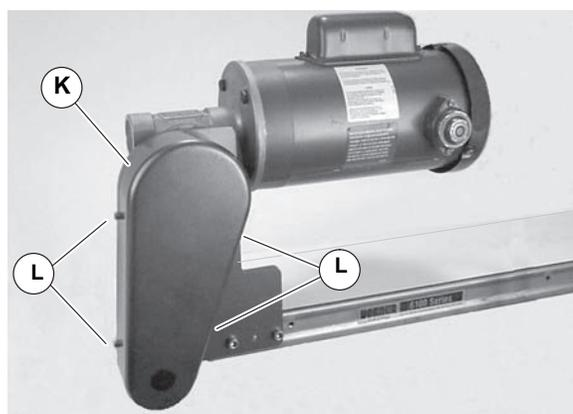

Figure 17
- Install cover (Figure 17, item K) with four (4) screws (L). Tighten to 35 in-lb (4 N-m).
1. Remove four (4) screws (Figure 17, item L) and remove cover (K).
4. Install cover (Figure 17, item K) with four (4) screws (L). Tighten to 35 in-lb (4 N-m).
6. Install cover (Figure 17, item K) with four (4) screws (L). Tighten to 35 in-lb (4 N-m).